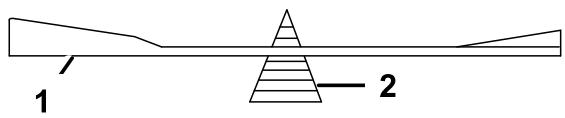

Figure 82
- 2. Check the balance of the blade by putting it on a blade balancer (Figure 82).